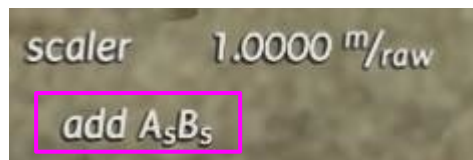

Figure 71. Highlighted menu option to add markers to the Scaler tool.
4. The bottom-left corner of the screen shows an option that says `add ##` (`#s` correspond to the letter of the marker being used; here, markers A and B have been assigned by Viscore, e.g., in Figure 71, the screenshot has `add AsBs`). Click `add ##` to add the markers. The color of the markers and the line between them will change from green to pink, which signifies that the markers have been added to the Scaler menu (Figure 72).